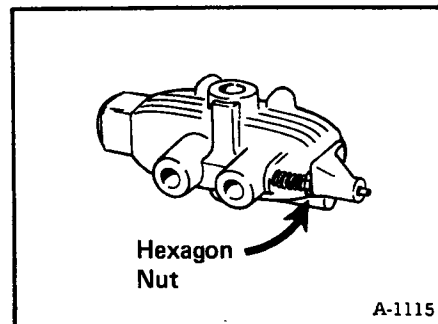

Fig. 119 Variable Speed Thermal Relief Setting
1. To increase the pressure setting turn the hexagon nut in the cast spring holding bracket so it moves toward the spring, compressing it. Turn the nut 1/4 turn, then recheck the pressure setting. Repeat if necessary (Figure 119). If the nut runs out of threads, place a washer between the nut and spring.
2. To decrease the pressure setting turn the hexagon nut so it moves away from the spring, releasing compression from it (Figure 119).